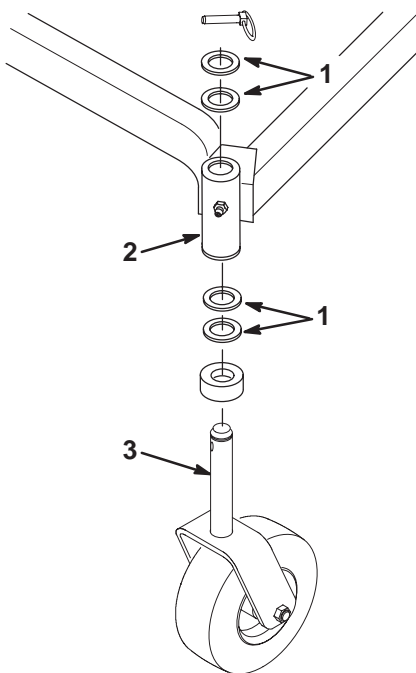

Figure 20
4. To change the front-to-rear pitch, move an equal number of thrust washers on both caster wheel forks. To change the front-to-rear pitch, move an equal number of thrust washers on both caster wheel forks (Fig. 20).
- Move the thrust washers from the top of the carrier frame mounting tube to the bottom, to raise the front of the mower (Fig. 20).
- Move the thrust washers from the bottom of the mounting tube to the top, to lower the front of the mower (Fig. 20).
4. To change the side-to-side leveling, move the thrust washers on one castor wheel fork only. Move the thrust washers from the top of the carrier frame mounting tube to the bottom to raise the corresponding side of the mower. Move the thrust washers from the bottom of the mounting tube to the top to lower the corresponding side of the mower. (Fig. 20).